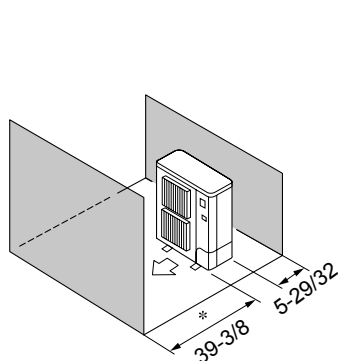

Fig. 2-10
- ⑤ Obstacles at front and rear only (Fig. 2-10)